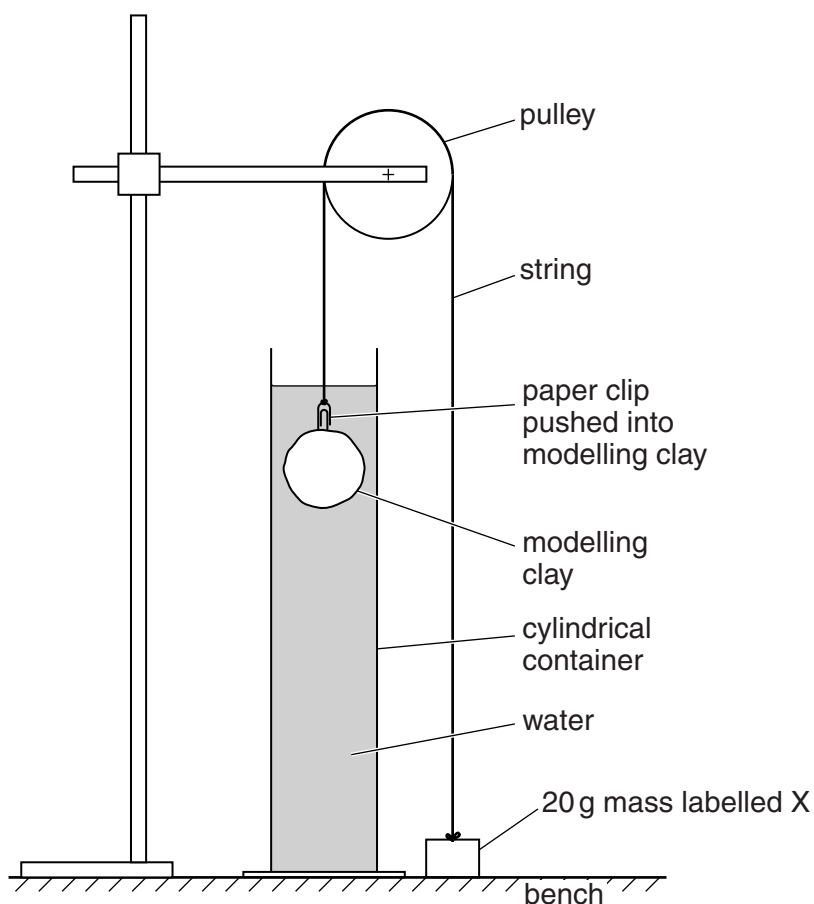

Fig. 2.3
- 4 Assemble the apparatus as shown in Fig. 2.3.